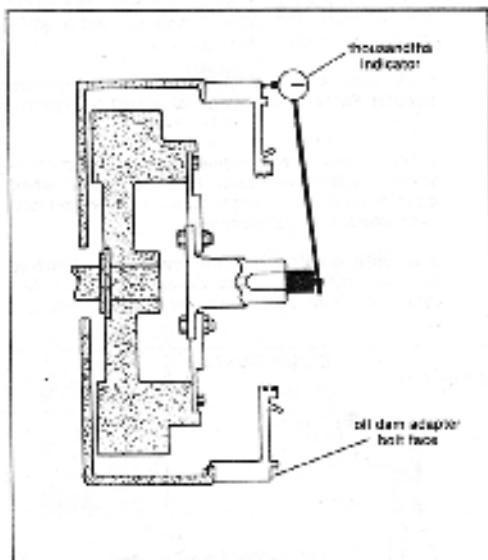

Figure 5. Dial Indicating Oil Dam Adapter Bolt Face
10. Dial indicates oil dam bolt face as shown in figure 5. Record reading. Total indicator reading must not exceed .007 inch